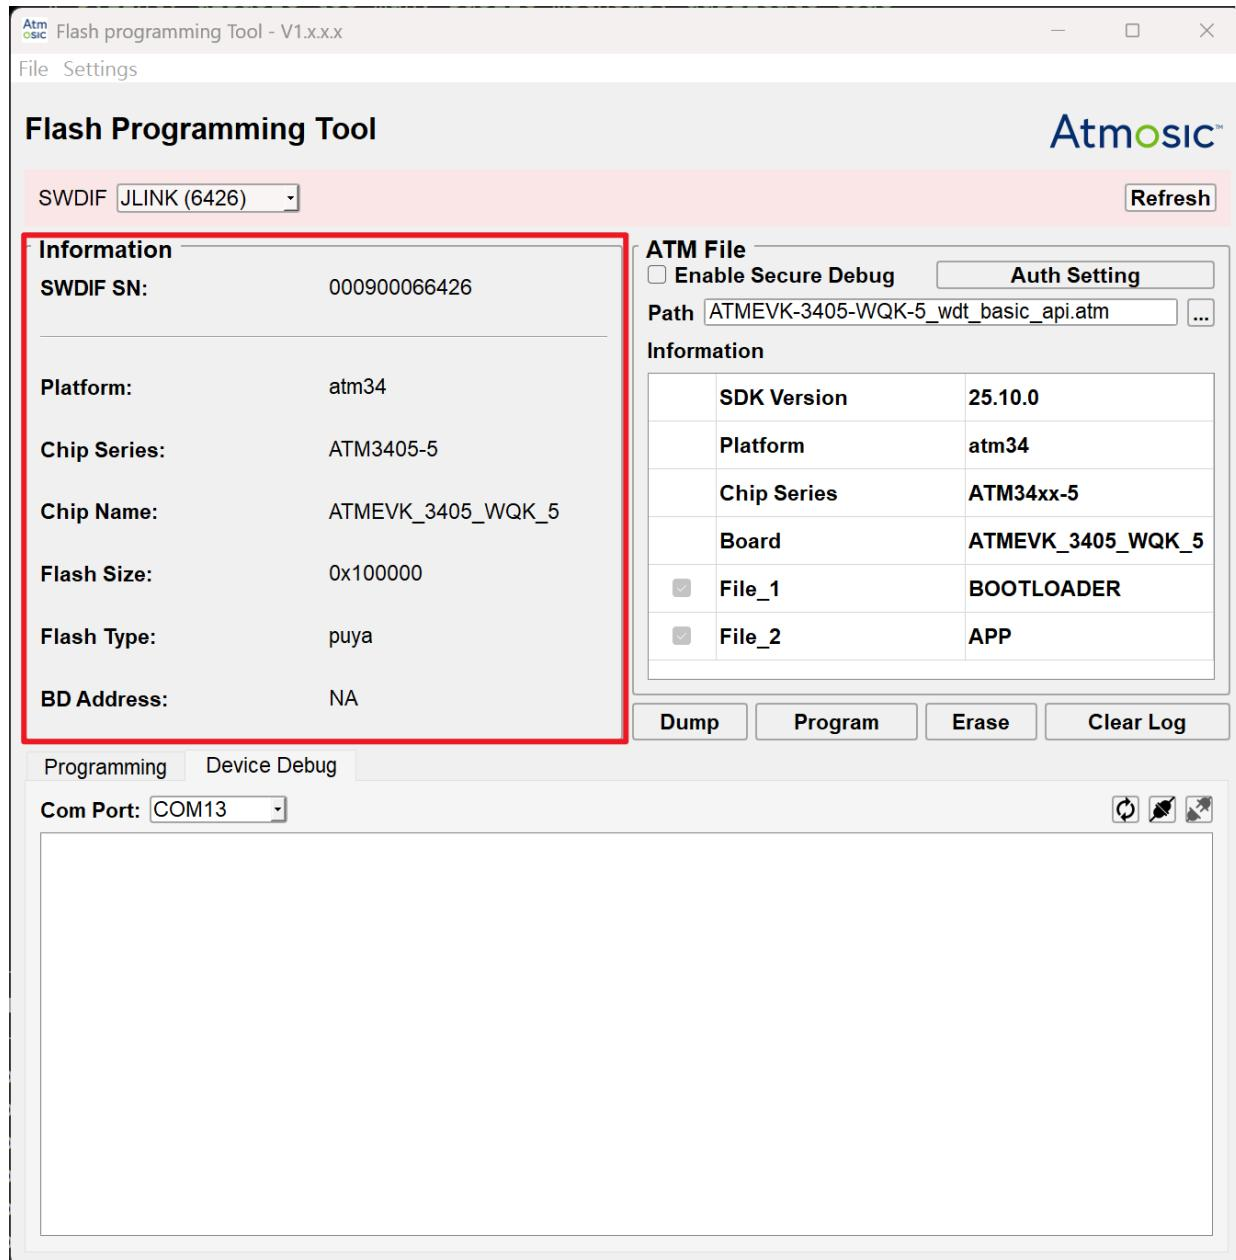

Figure 3-2 SWDIF Information in Main GUI
- Figure 3-2 SWDIF Information in Main GUI